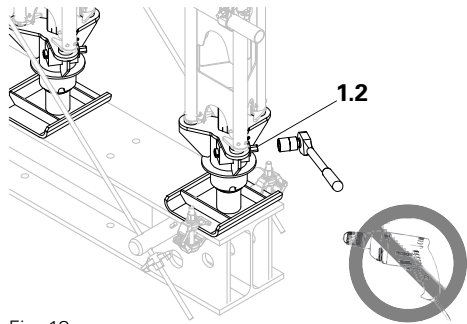

Fig. 18
- **When lowering under load, the use of a drill is prohibited! Use crank, ratchet or wrench! (Fig. 18)**
1. In order to lower the 200 Heavy-Duty Props, lower the Lowering Devices sequentially in small increments by turning the Driving Bolts (1.2) counter-clockwise. Take the lowering plan into consideration! (Fig. 18)